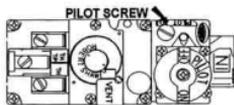

FIGURE 29
2. Adjust the pilot screw to provide properly sized flame. FIGURES 29 & 30. 1